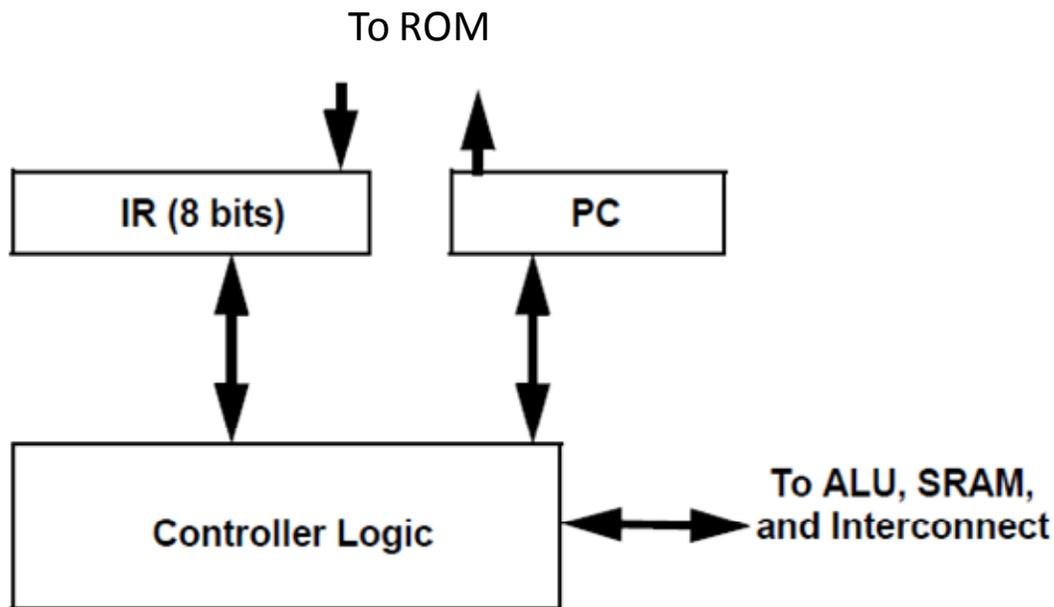

Figure 2. Controller block diagram
The control unit is the heart of the processor. It reads instructions from ROM where the program is stored, then sequences the appropriate control signals to the ALU, interconnect, and Register File (all implemented with FPGA) to execute the instruction. Figure 2 shows a block diagram of the control unit. Contained within the control unit are the Instruction Register (IR) and Program Counter (PC). Your controller must also maintain a carry flag, which may be encoded as a state in the controller.